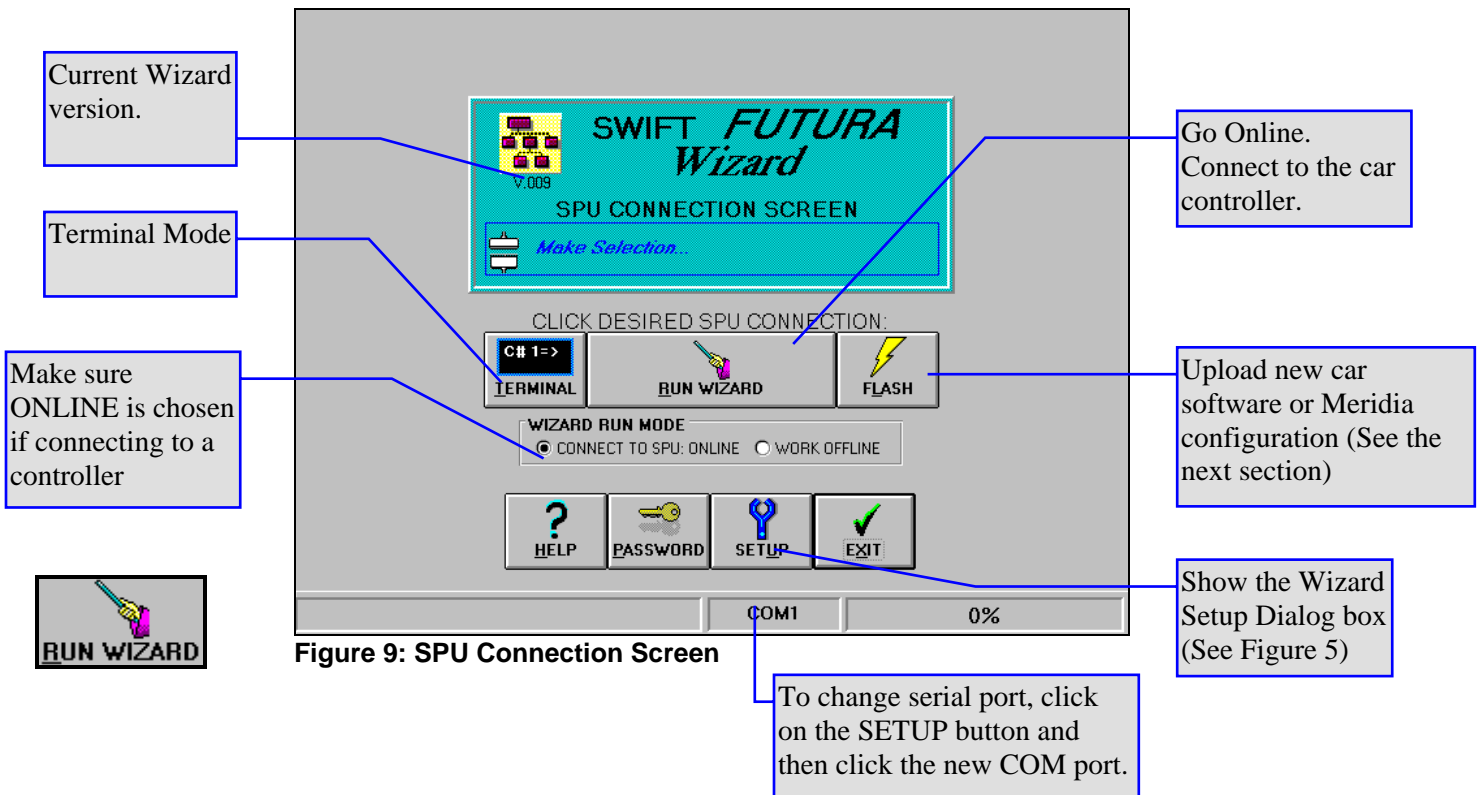
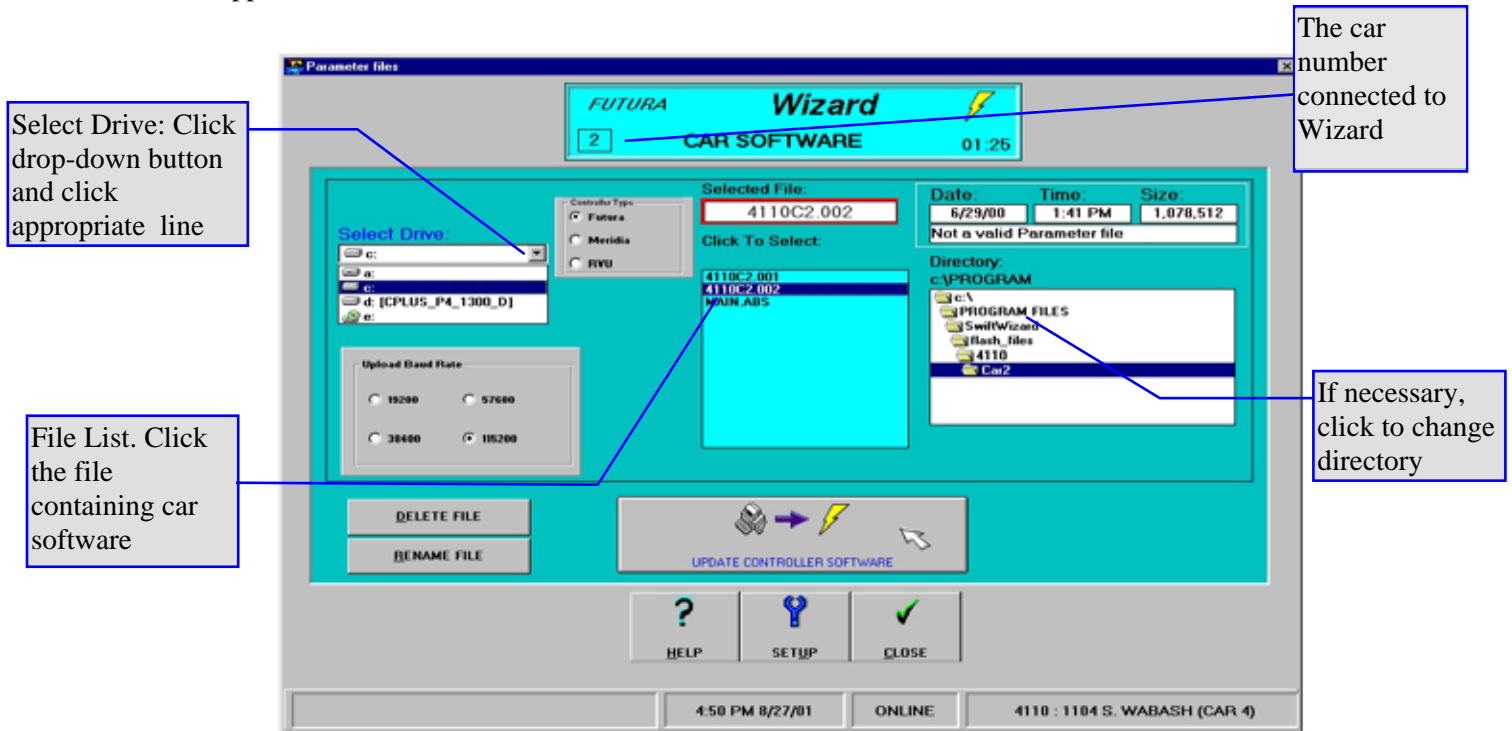

Figure 9: SPU Connection Screen
Figure 13: The Flash Upload Window.
1. Start the Wizard by double-clicking on the Wizard icon. The Window that appears is the SPU Connection Screen (see Figure 9). At this point, no communication with the car controller has been initiated. This initial Window serves as a starting point, allowing the user to select the desired task.
2. Start with the SPU Connection Screen shown in Figure 9. Before beginning, make sure the "CONNECT TO SPU: ONLINE" is selected if you want the Wizard to communicate with the controller. The "WORK OFFLINE" option is used to examine playback files stored in the computer or to view stored parameter files with no connection to a controller required. Click the RUN WIZARD button and the Wizard will begin to communicate with the SPU in the controller. If everything verifies, the password Window will appear; otherwise, a message box will appear alerting you of the problem.
The Terminal Mode provides a simple communication method with the controller using the commands (mostly 3 characters each) described in the controller manuals. It would not be used (although it can be) to view or change most parameters since these are more conveniently grouped and shown in the graphical Windows (Limits, Drive, Door Timing and so on) described later. However, there are a few parameters and some other commands that can only be performed in the Terminal Mode Window at present. You will become accustomed to these as you use the Wizard and note its correlation to the “Human Interface” section of the controller manual. To go to Terminal Mode start with the SPU Connection Screen shown in Figure 9. Click the
1. Start the Wizard by double-clicking the Wizard icon on the screen Desktop. The SPU Connection Screen Window (shown in Figure 9) will appear. Click the FLASH button. The Flash Window (shown in Figure 13) will appear.
Window which then appears, using its “Browse” button. In any case, whatever the initial directory you can Browse around in the Car Parameters Window, which is the same one used for Flash Upload shown in Figure 13. The browsing is described in its accompanying text above.